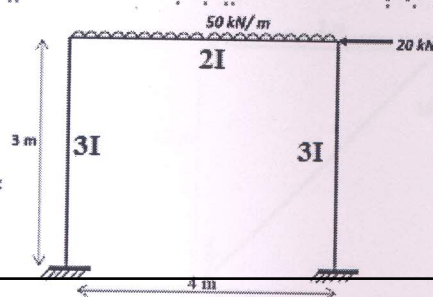

Fig. 3
3. Analyse the frame shown in Fig. 3 by Kani's method. Draw BMD and elastic curve. [10]